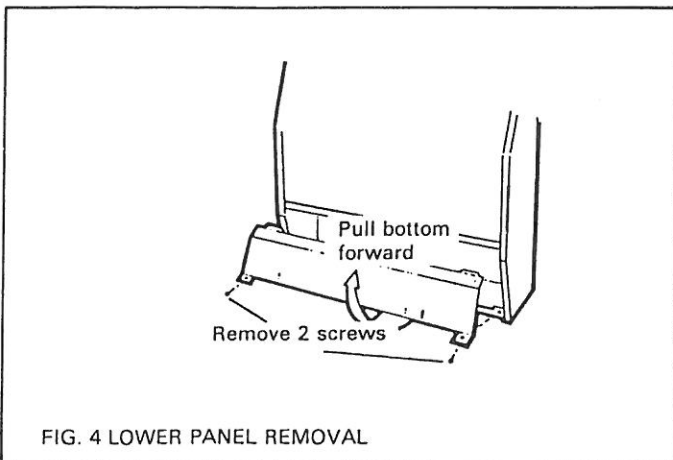

FIG. 4 LOWER PANEL REMOVAL
5. Detach the lower front panel from the heater by removing the two screws situated at the lower corners. Pull the bottom edge of the panel forward to release from the heater (fig. 4).